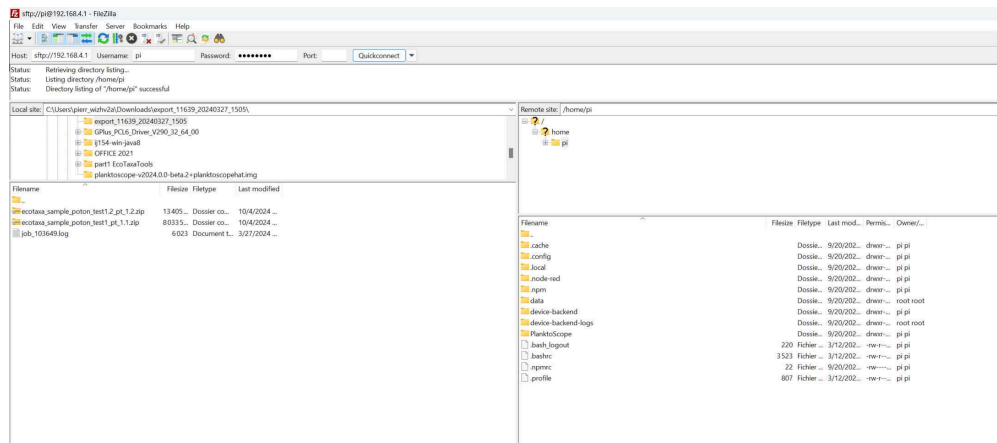

Figure 5: Interface of FileZilla. Personal files are on the left, files of the ftp host are on the right
2. On the bottom panels you have on the left, the access to what is in your computer, and on the right, the access to what is in the PlanktoScope (Fig.5). Click and slide to